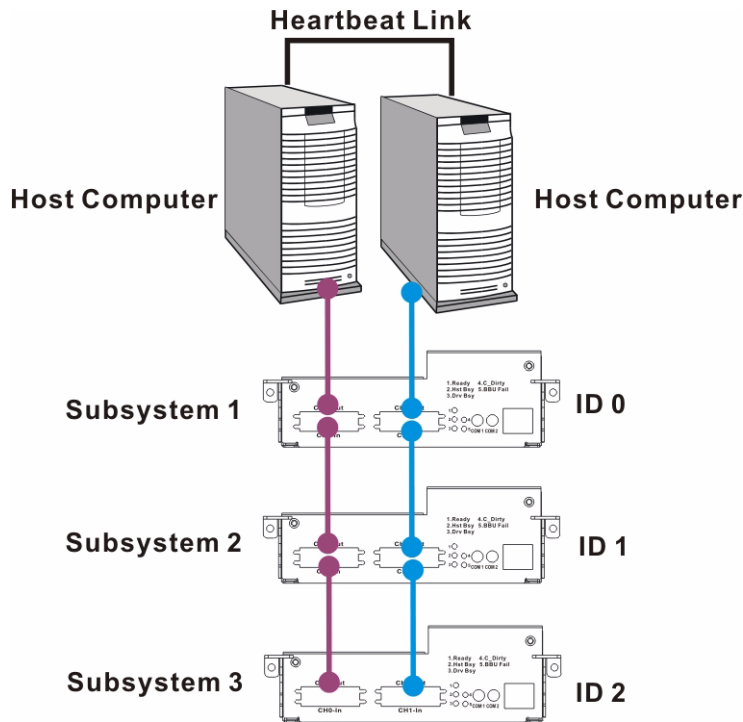

Fig. 5.4 Daisy Chain RAID Subsystems
3. Assign chassis IDs. Each chassis must be assigned a unique chassis ID before being powered on. The chassis ID for the first RAID subsystem is 0. The chassis IDs for the subsystems connected to the first RAID subsystem are from 1 to 16. You can assign chassis IDs through the LCD panel on the subsystem, firmware, or Bosch RAIDWatch management software. (See Figure 5.4)
4. Create redundant host paths. If access to data is a critical requirement, redundant data paths to different LDs (logical drives) or logical volumes (LVs) can be created. To do this, logical units (LDs or LVs) are mapped to both host channels (CH0 and CH1 in Figure 5.4.) This will ensure that if one host computer fails, the second host computer will be able to access the logical units on that host computer.